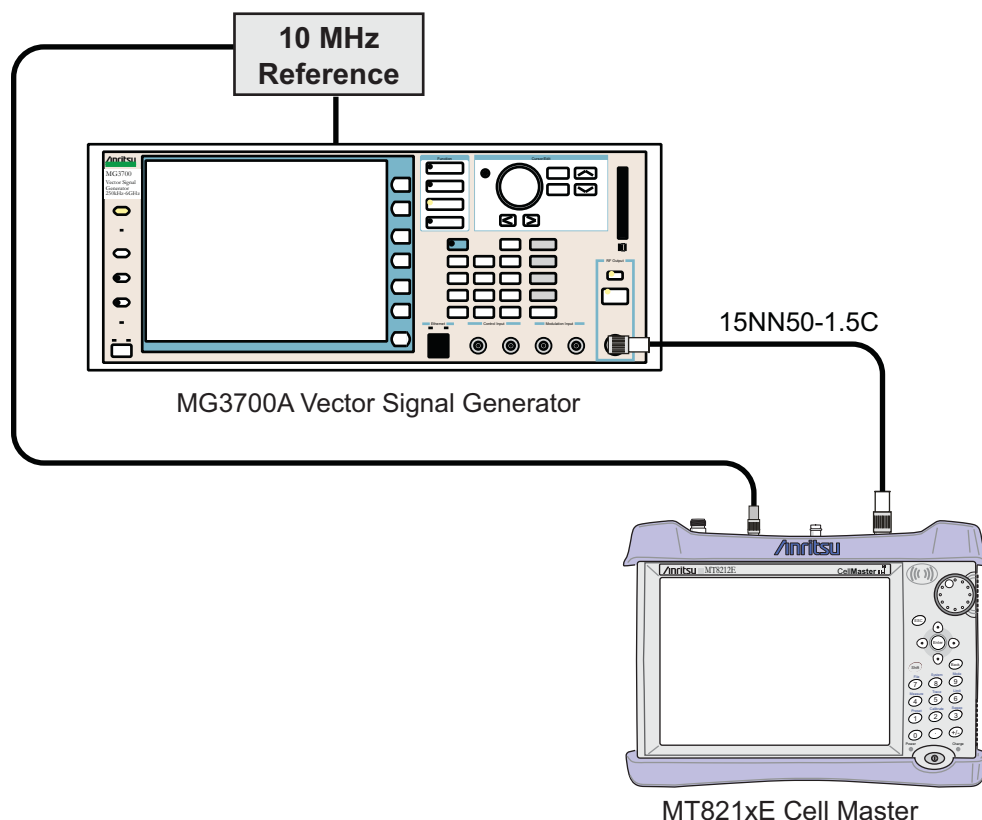

Figure 5-14. Frequency Accuracy and Residual MER Verification
1. Connect the 10 MHz External Reference signal into the MG3700A and Cell Master as shown in Figure 5-14.
1. Connect the 10 MHz Frequency Reference source to the Anritsu MG3700A and Cell Master as shown in Figure 5-14 on page 5-76.